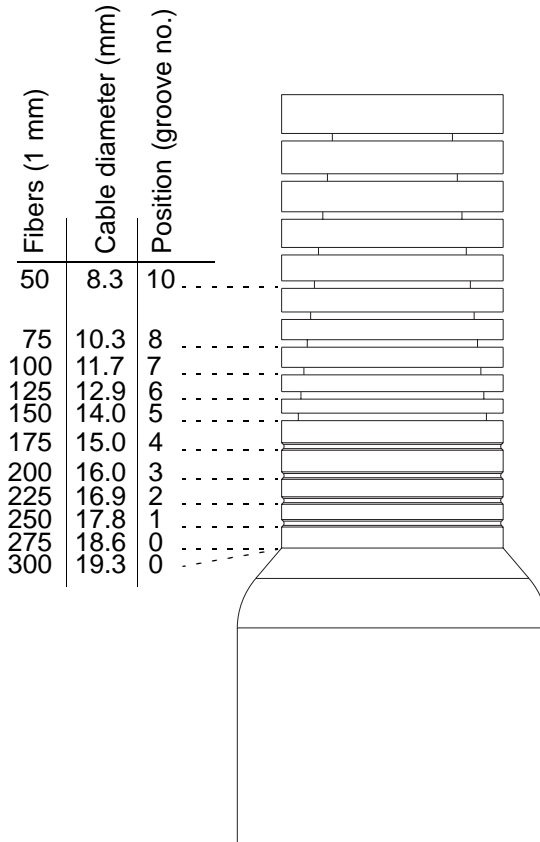

Figure 2: Adaptor alignment positions
1. Find the alignment position for the number of fibers or cable diameter in Figure 2.